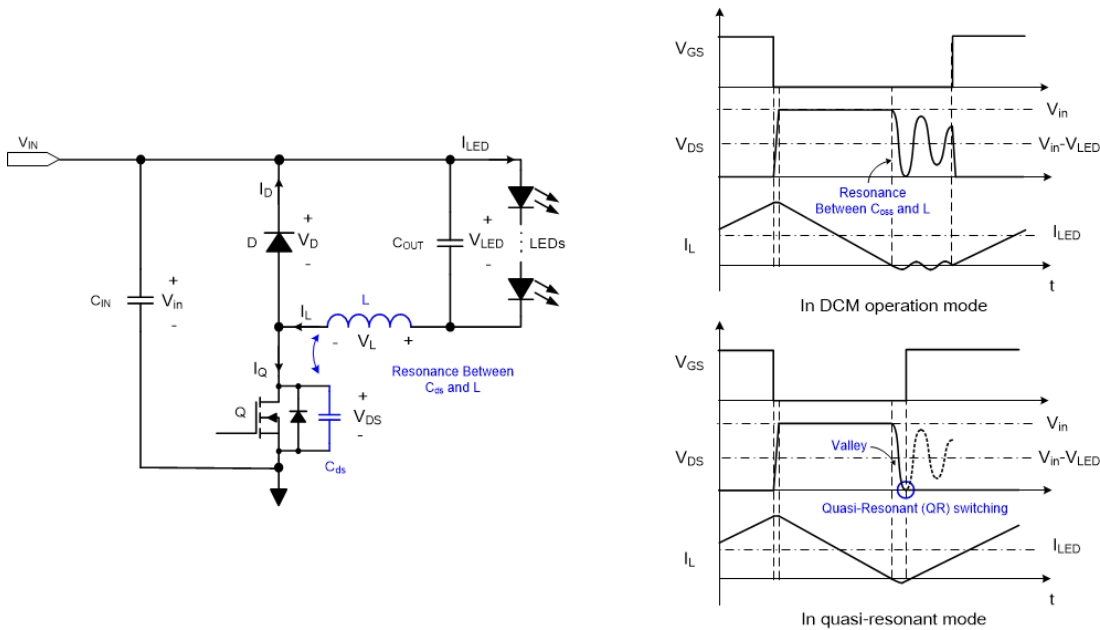

Figure 25. Principle of the quasi-resonant mode at the low-side switch buck converter
In order to operate the critical conduction mode (CRM) mode, the quasi-resonant (QR) mode is adopted as the control method. It is known as variable frequency control or valley switching control. Figure 25 shows the principle of the quasi-resonant mode at the low-side switch buck converter. In the discontinuous conduction mode (DCM) operation mode, when the stored energy of the inductor is fully discharged and the inductor current is zero, the resonance between the buck inductor L and the drain-source capacitance C_{ds} of the MOSFET Q occurs. The MOSFET drain-source voltage V_{DS} oscillates as a damped sinusoidal wave. The resonant frequency by the L and C_{ds} is expressed as follows:
In the QR mode, the above-mentioned resonance is used as shown in Figure 25. If the MOSFET is turned on when V_{DS} reaches zero (or low) (which is called valley point), the buck converter is operated in the CRM mode. Because the voltage and current of the MOSFET are zero (or low) at the moment that the MOSFET is turned on, the switching losses are significantly reduced.